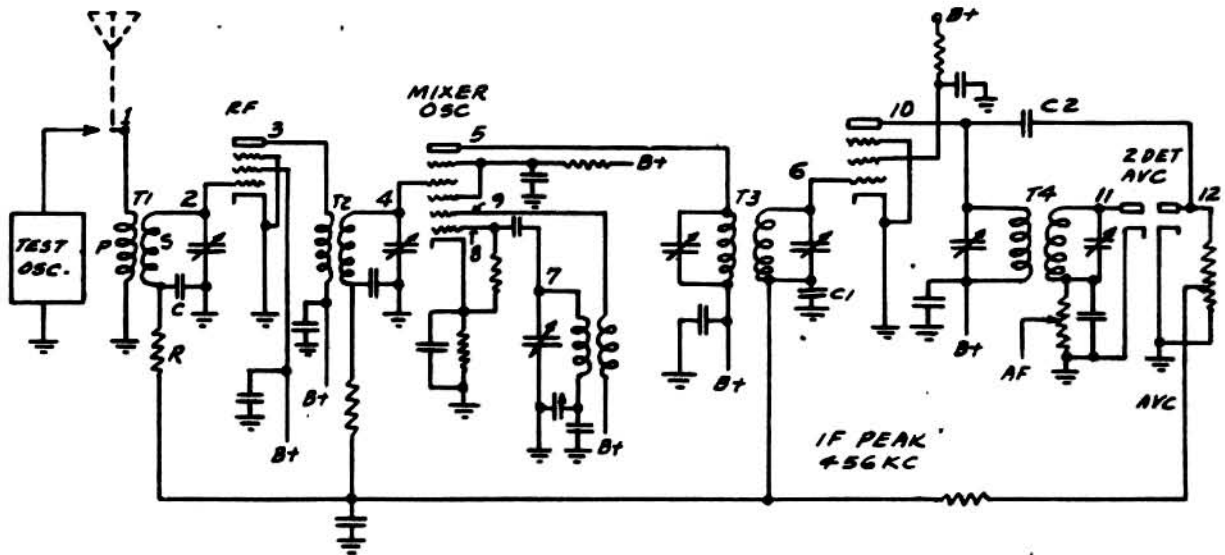

Figure 9
Refer to the receiver schematic diagram Figure 9. Reference to various points upon this diagram apply to equivalent points in a conventional a-c superheterodyne receiver employing an r-f stage, a combination mixer-oscillator, one i-f stage and a dual-function second detector and a.v.c. diode. This receiver normally operates over the standard
3. Place the rf-if (red cable) probe point in contact with the antenna terminal "1" in Figure 9.
With normal signal at the r-f grid, we advance to the next point of test and this is the mixer plate, "5," as shown in Figure 9. This is a very important place in the receiver because valuable information can be obtained here. Three major signals of three different frequencies are available at this point; the r-f signal, the i-f signal, and the signal produced by the local oscillator within the receiver. Not only is the presence of these signals important, but the frequency of the i-f and the oscillator signal are also very important.
THE A.V.C. DIODE SIGNAL If you examine the schematic in Figure 9, you will note that a condenser is connected between the plate of the second i-f tube and a diode plate (point "12"). This is the a.v.c. diode plate. In some instances, this diode is joined to the detector diode and the detector and a.v.c. functions are performed by the same diodes. In this case, however, individual diode plates are used.
With headphones plugged into the "RF-IF" output jack and the (red cable) probe moved through the various points outlined in connection with Figure 9, we can listen to this signal any place along the line where the modulated signal exists. The headphones required for this purpose are a pair of high impedance phones such as the crystal type.
—Signal tracing in tuned radio frequency receivers does not differ from that explained in connection with the superheterodyne shown in Figure 9. Since frequency conversion does not take place in a t-r-f receiver, the signal checked between the antenna and the detector tube is of the frequency fed into the receiver at the antenna. In other words, the entire tuned radio frequency portion, inclusive of the detector, is treated exactly as the radio frequency portion of a superheterodyne.